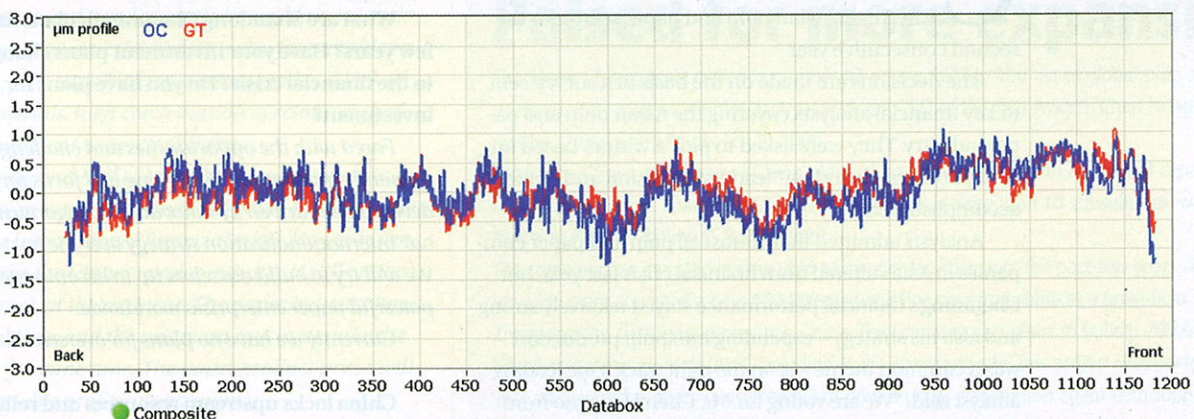

Fig. 1 - ON-LINE HIGH RESOLUTION COMPOSITE PROFILES ON DUAL-SIDE COATED LWC PAPER
The new sensor was first tested on a large, dual-side coated LWC machine. Exceptional agreement with the contacting caliper sensor. Figure 1 displays a high resolution CD profile comparison between the optical caliper (OC) and the contacting caliper sensor (GT). This profile was taken from inspection data during the test production period.